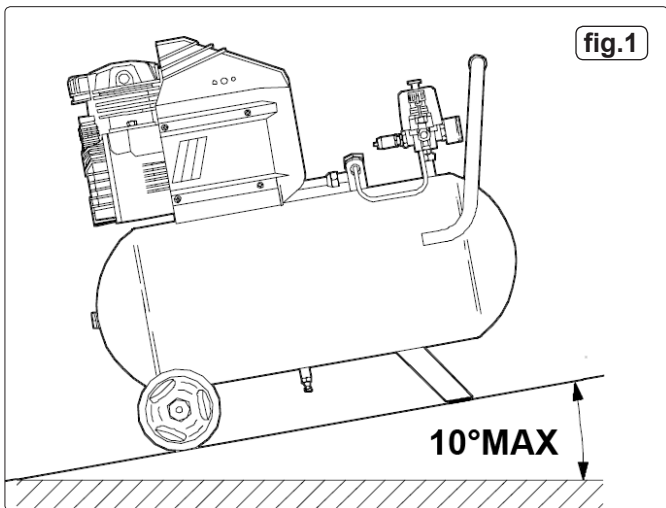

fig.1
- 3.6. Position the compressor on a flat surface or with a maximum permissible inclination of 10° (fig.1). Site in a well ventilated area, protected against atmospheric pollution and not in a place subject to explosion hazard. If the surface is inclined and smooth, check if the compressor moves whilst in operation. If the surface is in a raised position, make sure the compressor cannot fall, securing it in a suitable way.